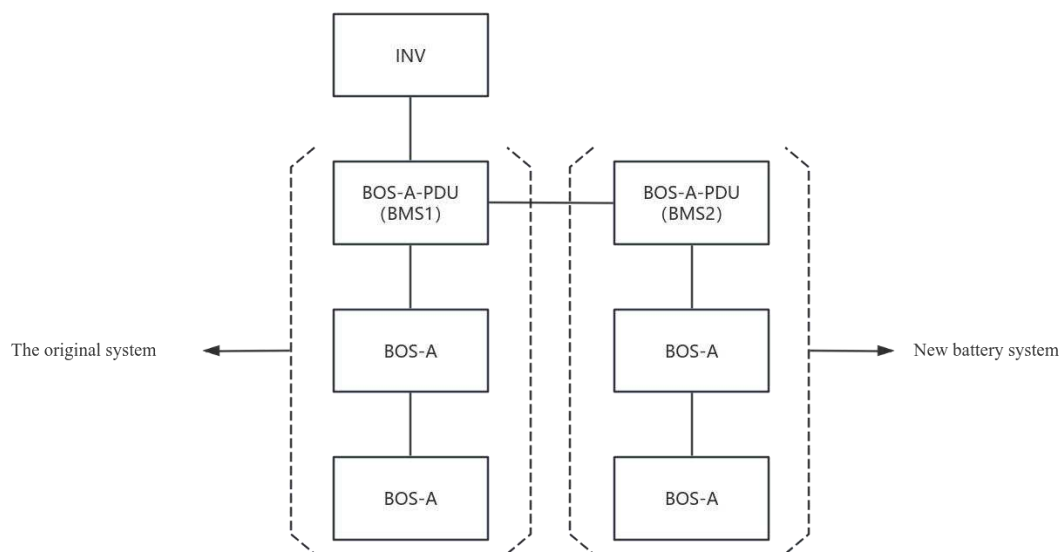

**Figure2 Network diagram**
**Step 1:** Verify the battery serial number (SN). If the manufacturing date difference between the new and old batteries is within two years, capacity extension is allowed.
**Step 5:** Please attach a terminal resistance to the out port of the last HV box when confronting a parallel communication issue. (The last HV box is BOS-A-PDU(BMS2) as figure 2)